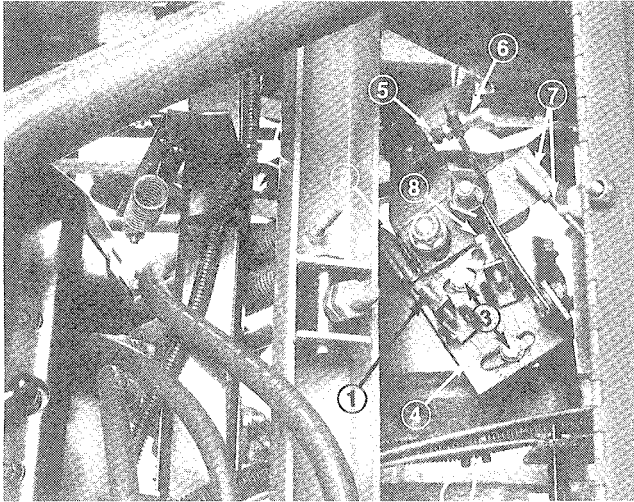

Figure 24
3. Loosen two capscrews securing traction plate so plate is free to move (Fig. 24).
4. Start engine and rotate traction plate (Fig. 24) in either direction until wheel ceases rotation.
5. Stop engine and tighten capscrews to secure traction plate (Fig. 24).
8. Adjust traction cable or ball joints (Fig. 24) as required to attain a  $4.00'' \pm .25''$  dimension from tip of traction pedal to footrest, when pedal is in neutral position.
9. Loosen jam nut on rear stop screw and thread screw into bracket (Fig. 24).
10. Depress front of traction pedal, rotating traction lever (Fig. 24) counterclockwise, until lever stops. While holding pedal down, back out stop screw until it contacts traction lever, then back out screw two additional turns. Tighten jam nut.
11. Loosen jam nut on front stop screw and thread screw into bracket (Fig. 24).
12. Depress rear of traction pedal, rotating traction lever (Fig. 24) clockwise, until lever stops. While holding pedal down, back out stop screw until it contacts traction lever, then back it out two additional turns. Tighten jam nut.